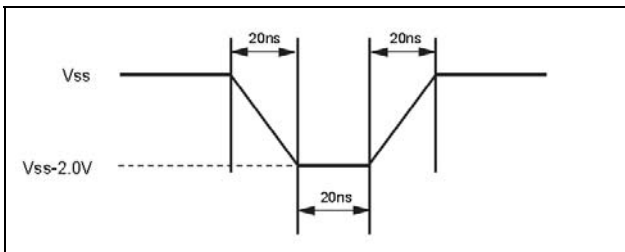

Figure 2. Maximum Negative Overshoot Waveform
3. During voltage transitions, all pins may overshoot Vss to -2.0V and Vcc to +2.0V for periods up to 20ns, see Figure 2, 3